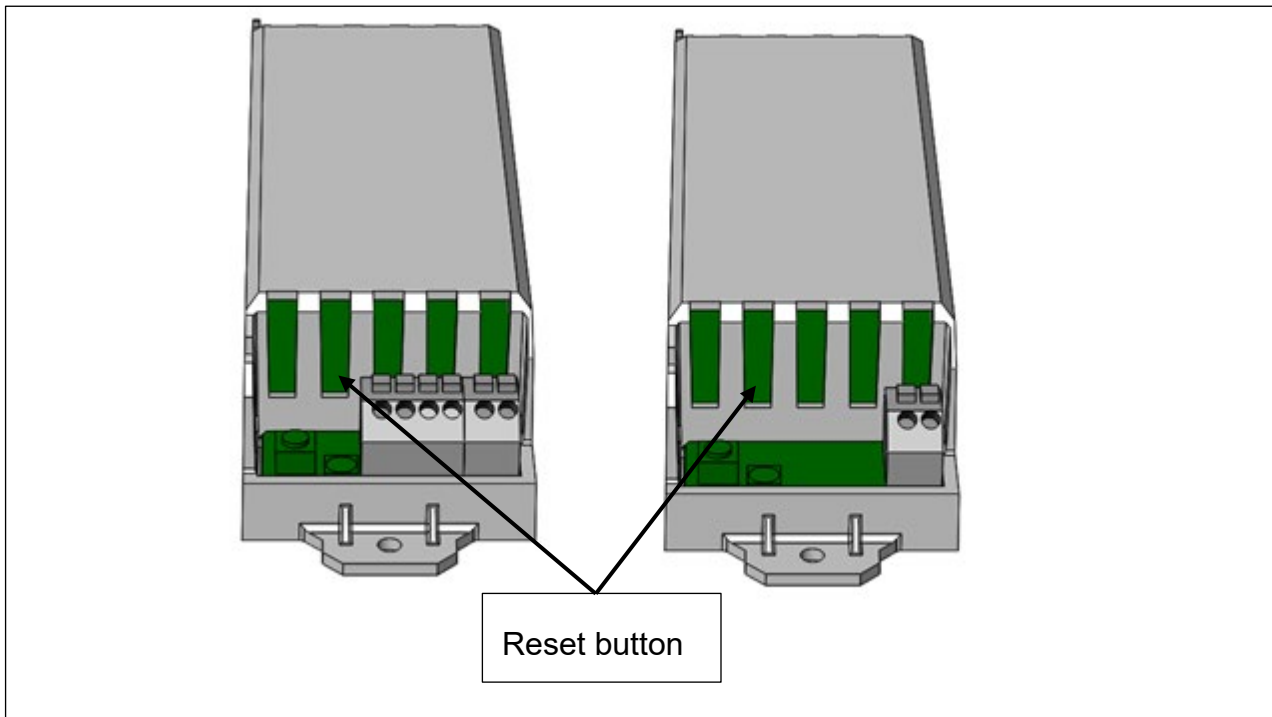

Figure 7. Location of the reset button. Left figure: TSF02075 & TSF0285. Right figure TSF02076 & TSF0286
8. The memory of the receiver can be reset by pressing the reset button on the circuit board, inside the casing (see Figure 7), for longer than 0.5 seconds.
7. The memory of the receiver can be reset by pressing the reset button on the circuit board, inside the casing (see Figure 7), for longer than 0.5 seconds.